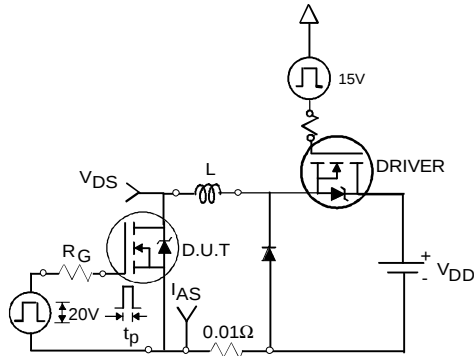

Fig 12a. Unclamped Inductive Test Circuit
3. Equation below based on circuit and waveforms shown in Figures 12a, 12b.
- ④ Pulse width $\leq 400\mu\text{s}$; duty cycle $\leq 2\%$.
- ⑤ C_{OSS} eff. is a fixed capacitance that gives the same charging time as C_{OSS} while V_{DS} is rising from 0 to 80% V_{DSS} .
- ⑥ Calculated continuous current based on maximum allowable junction temperature. Package limitation current is 75A.
- ⑦ Limited by T_{Jmax} ; see Fig.12a, 12b, 15, 16 for typical repetitive avalanche performance.